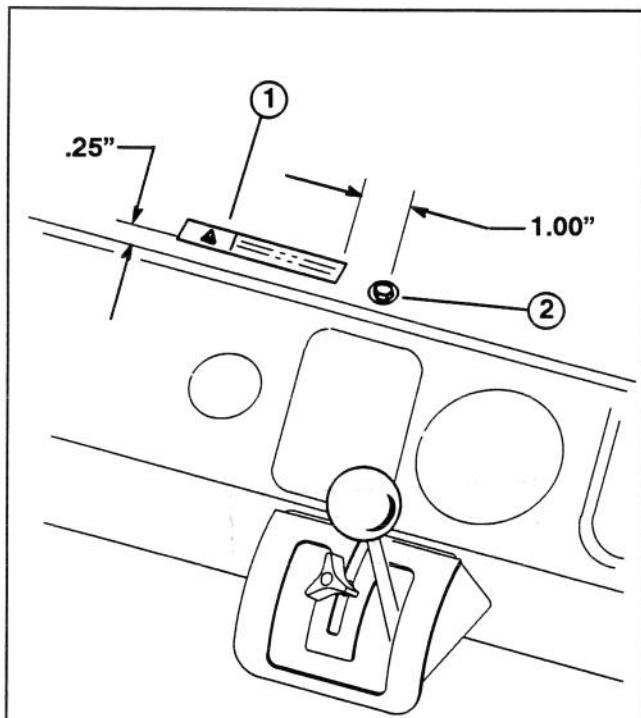

Figure 5
11. Using dimensions shown in figure 5, locate and apply warning decal to left side of center hood mounting bolt.